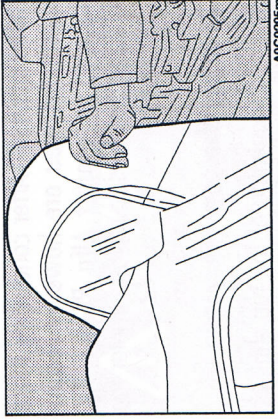

fig. 73
- lower the top arched frame **fig. 73** and then open the boot;